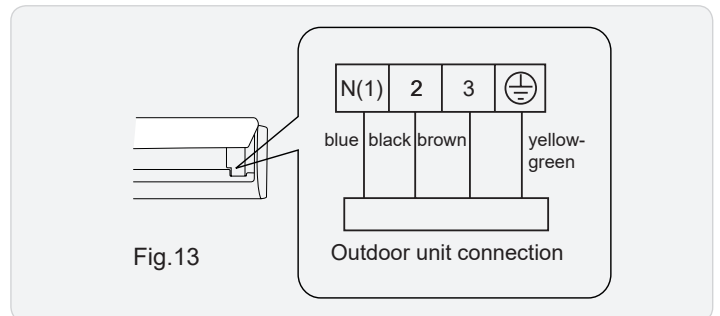

Fig.13
(3) Remove the wire clip; connect the power connection wiresig control wire (only for cooling and heating unit) to the wiring terminal according to the color; tighten the screw and then fix the power connection wire with wire clip.(As show in Fig.13)